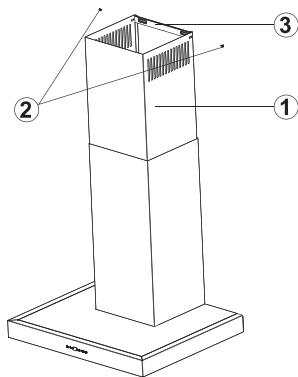

Fig. 13: MOUNTING SHEET FLUES
- Pull up to left the Internal Flue (1) using screws (2) and screw it on the flue connection sheet on the right and left (3). (Fig. 13)
- Mount the internal flue on the flue connection sheet using the (2) screws (3).